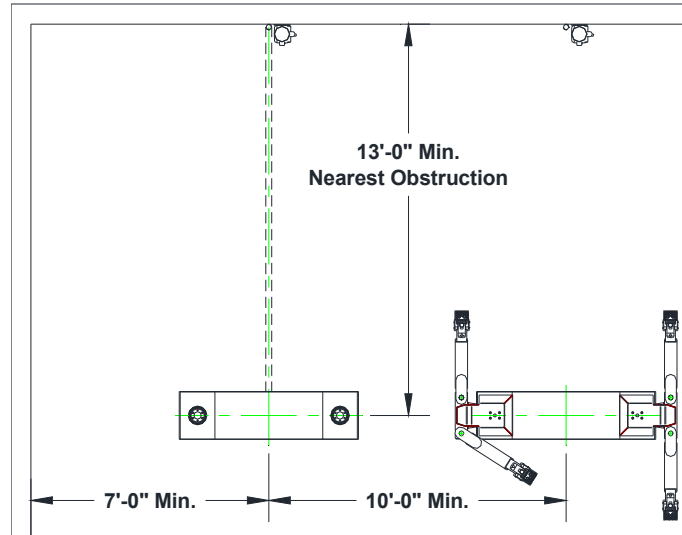

Fig. 1
Locate lift to allow plenty of working room on all sides. Allow room for workbenches at front of bay, aisles, lubrication equipment or other obstructions. Check overhead clearances. Ordinarily 12 feet is ample for automobiles. Observe the recommended minimums in **Fig 1**.
2. Using a chain hoist and tripod, fork lift, crane, etc. for lifting; lower the lift / containment assembly in the excavation being sure the PVC inlet hole is toward the power unit, until the top of the assembly is 1/8" to 1/4" above finished floor level and aligned with the previously determined center lines. Refer to **Figures 1 and 3**.
Be sure the adapters are in the lowered position and the arms are parked as seen in **Fig. 1** before attempting to drive on or off of the lift. Failure to do so may damage the adapters or vehicle.